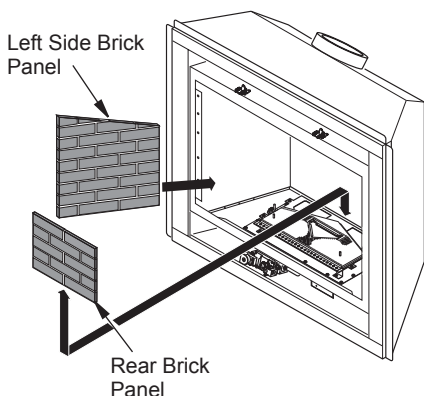

Figure 39 - Installing Rear Brick Panel
8. Install rear brick panel first. Rest bottom edge of panel on back edge of burner assembly (see Figure 39).
9. Install left side brick panel by sliding it between the burner assembly and the side of the firebox (see Figure 39).